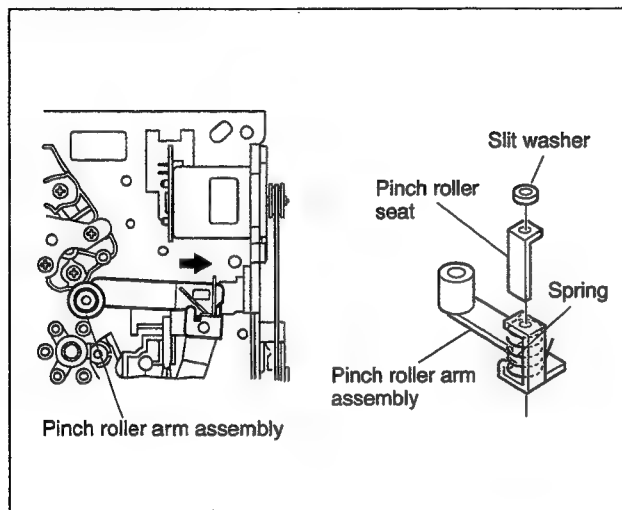

Fig. 2-2-10
- (1) Remove the spring from the hook of the press lever.
- (2) Remove the slit washer and remove the pinch roller seat. (See Fig.2-2-10)
- (3) Remove the pinch roller arm assembly by pulling it up.